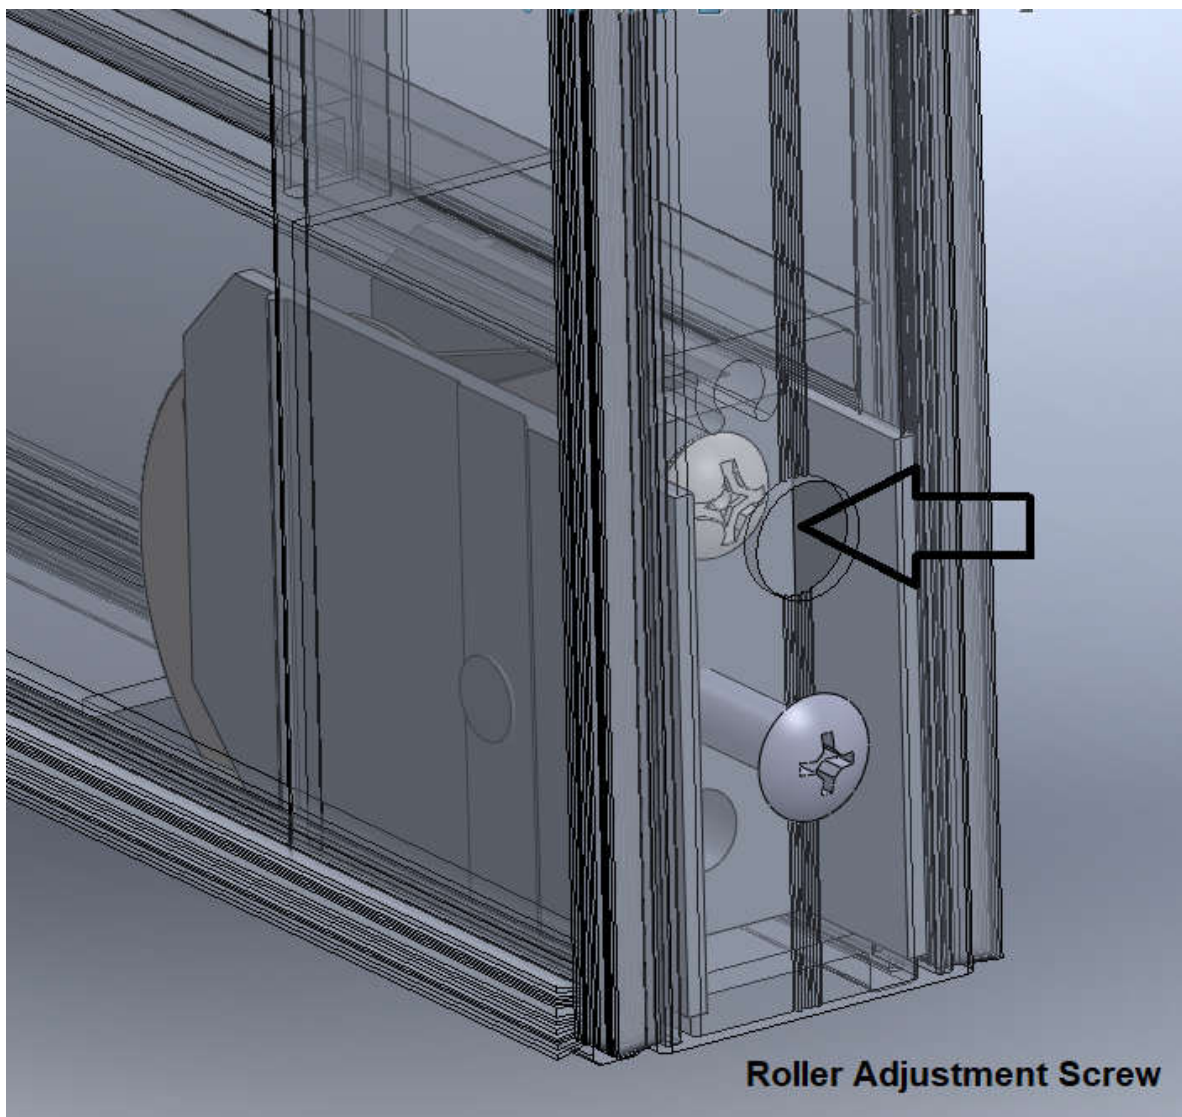

Figure 25
- 3) Adjust screen rollers located at bottom of screen at each end. See Fig. 25.